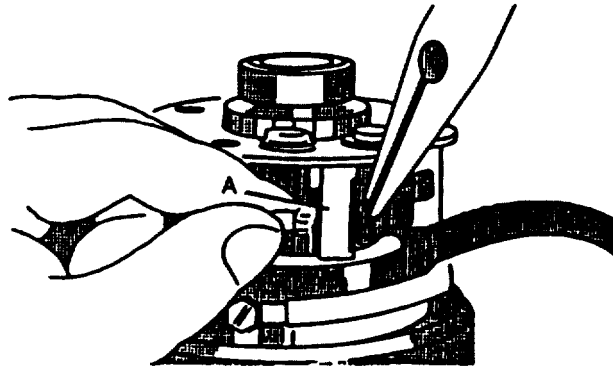

FIGURE 3-16. Removing Brush Holder Assembly
- b. Disconnect yoke assembly lead wire (6) at magnetic switch assembly (24).
- c. Remove two through bolts (7), lockwashers (8), washers (9), and preformed packings (10). Discard lockwashers (8) and preformed packings (10).
- d. Remove two screws (11) and starter end frame (12). Remove yoke assembly (38).
- e. Lift brush springs and remove brushes from brush holder (13). Remove brush holder assembly (13), refer to FIGURE 3-16.
- If removed, install nuts (26 and 27), washers (28 thru 30), lockwashers (31 and 32), and screw (25)
- Apply general purpose grease (630AA) to retainer (20), rollers (21), overrunning clutch (17), steel ball (18), spring (23), and bearings (33 and 34).
- Install washer (22) and spring (23) in magnetic switch assembly (24).
- e. Install five rollers (21), retainer (20), and starter pinion (19) in housing (16).
- f. Place steel ball (18) in overrunning clutch (17) and install both in housing (16).
- g. Position assembled housing (16) on magnetic switch assembly and secure with three screws (15). Tighten screws 5.1 to 8.7 ft-lbs (6.9 to 11.8 Nm).
- h. Install armature (14) in magnetic switch assembly (24).
- i. Position brush holder (13). Lift springs and install brushes, refer to FIGURE 3-16. Ensure negative brushes (connected to brush holder) are installed in negative holes (not insulated) and positive brushes (connected to yoke) are installed in positive holes (separated from plate with insulator). Ensure positive brush leads are not grounded.